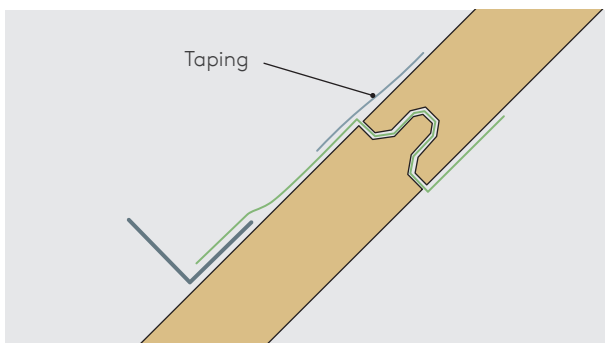

Figure 6
- If the position of the skylight is already known a piece of a vapour permeable rainproof membrane can be fixed in the next joint above the future skylight (Fig. 6). When installing skylights at a later date, a metal angle with a slope is attached above the skylight using suitable adhesive products.